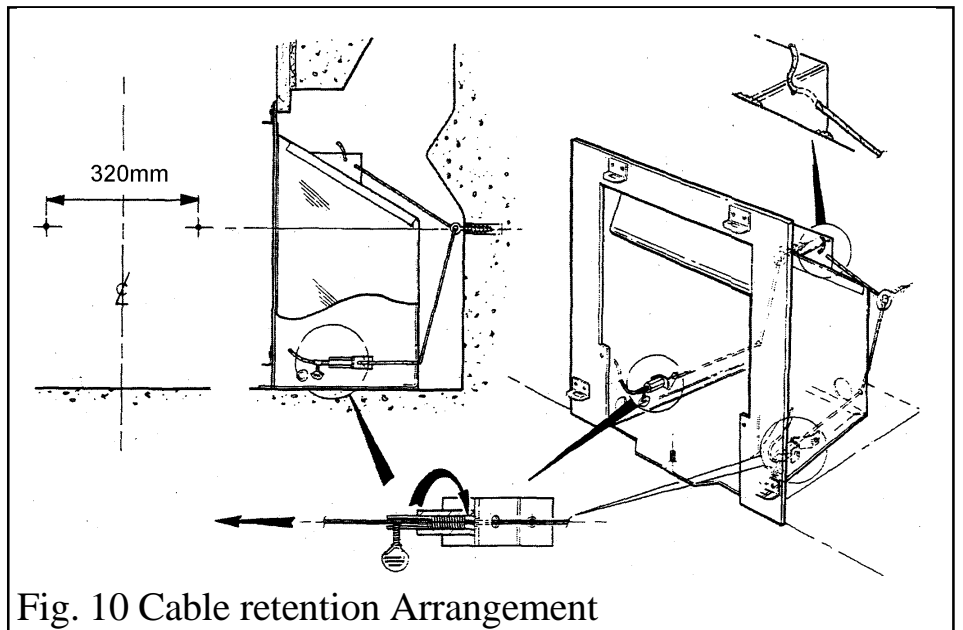

Fig. 10 Cable retention Arrangement
5.2 Drill two holes in the rear wall of the fireplace for the eyebolt plugs. The holes should be drilled in the positions shown in figure 10 using a no.12 masonry drill.
5.5 The convection box has two holes at each end of the debris deflector. Insert one end of each cable (one cable each side) from the back through the lower of the two holes and return the end through the upper of the holes (see figure 10). Give the cables a pull so that they grip against the debris deflector flanges.
5.6 Thread the cables through the eyebolts in the rear wall. Return the cables through the holes near the bottom of the convection box back panel and through the “V” shaped brackets near the bottom front sides of the convection box. See figure 10.
5.8 Fit a cable retainer over the bottom end of each cable (see figure 10).
5.9 Pull each cable taut. Push the cable retainers hard up against the “V” brackets. Tighten the screws in the retainers so that they clamp the cables in position. Apply tension to the cables by turning the hexagonal adjusters by hand (see figure 10).